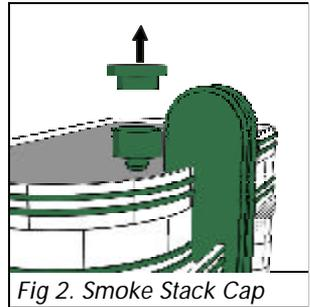

Fig 2. Smoke Stack Cap
1. To prime the unit, remove the cap of the smoke stack on top of the car wash (Fig. 2) and add 15-20 drops of ProtoSmoke (included is a small pipette of ProtoSmoke fluid), Seuthe, LGB, or LVTS smoke fluid through the hole. Then gently blow into the hole to eliminate bubbles. Do not overfill the unit, as that can cause the fluid to leak out and coat other interior components. When smoke output begins to diminish, add another 10-15 drops of fluid.